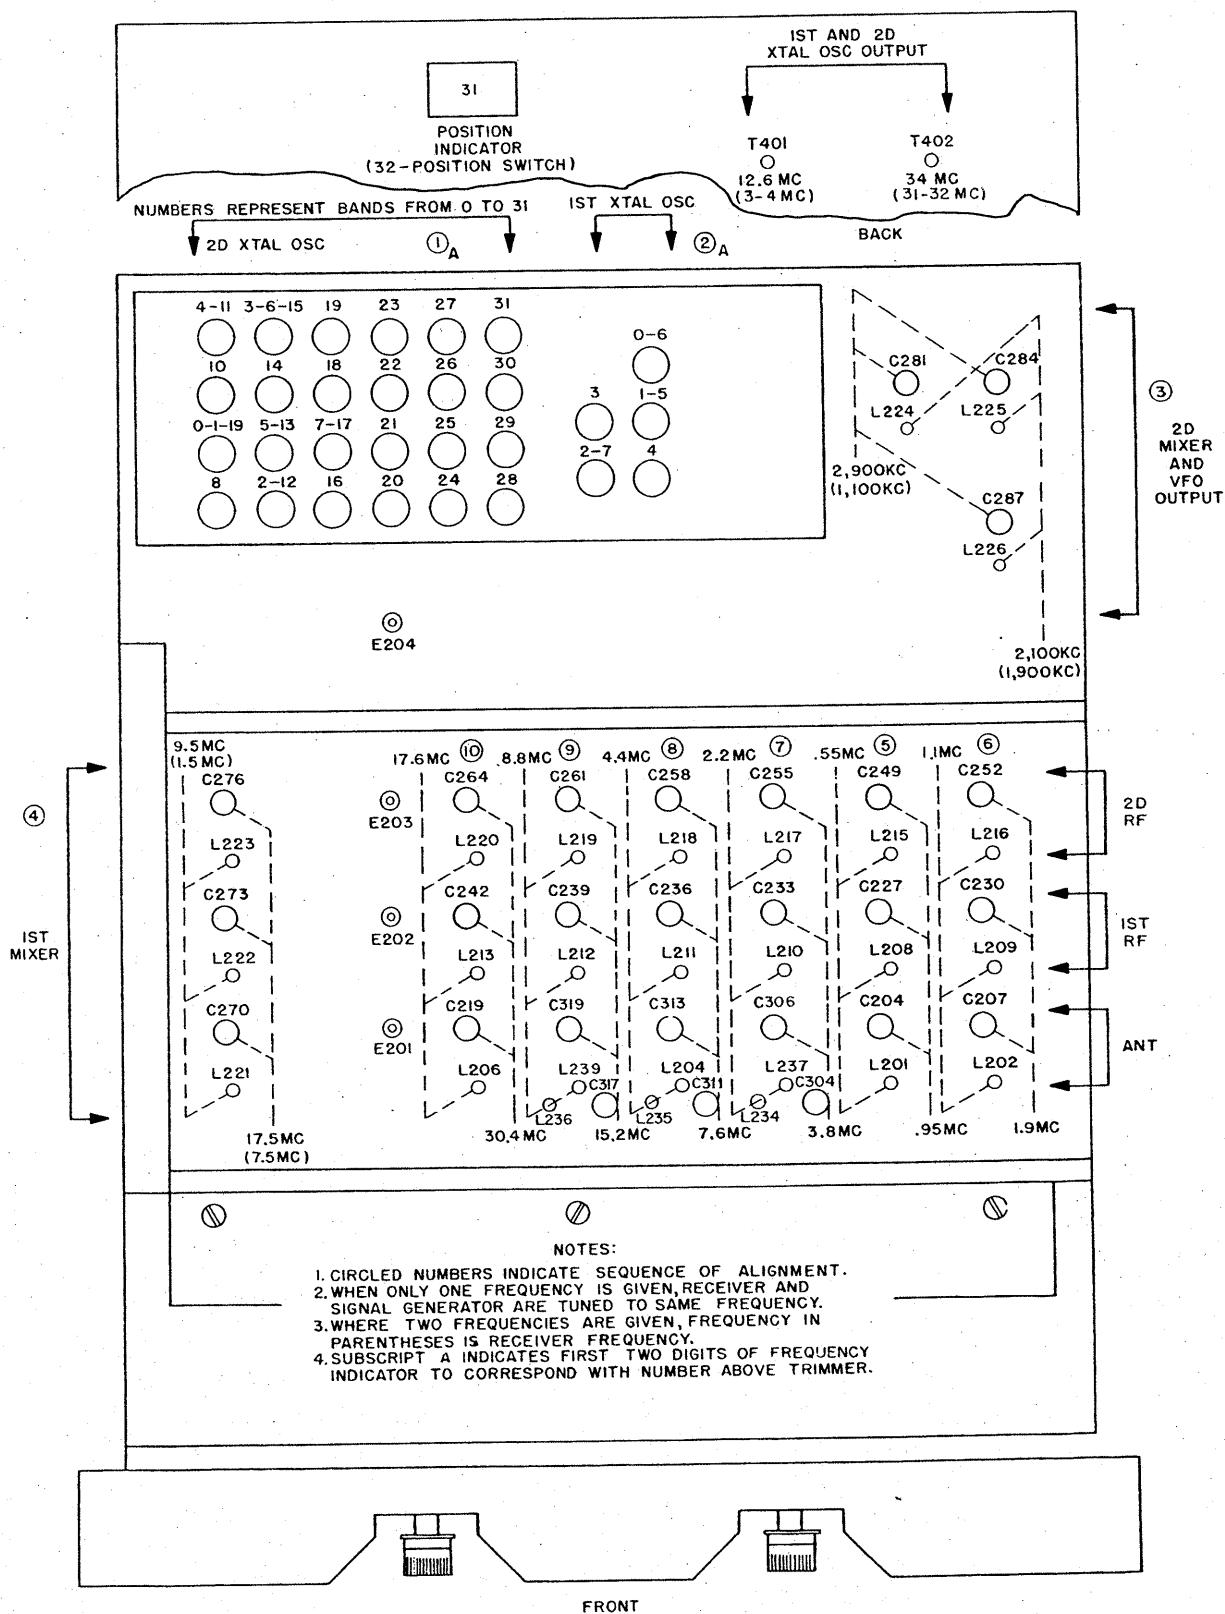

Figure 67. Receiver upper deck, alignment points.
g. Adjust trimmer capacitors C281, C284, and C287 (fig. 67) for a peak indication on the ME-26/U. Adjust the attenuator on the AN/URM-25 to maintain the ME-26/U indication at less than 3 volts.
L226 (fig. 67) for a peak indication on the ME-26/U.
f. Adjust the slugs of coils L221, L222, and L223 (fig. 67) for a peak indication on the ME-26/U.
i. Adjust trimmer capacitors C270, C273, and C276 (fig. 67) for a peak indication on the ME-26/U.